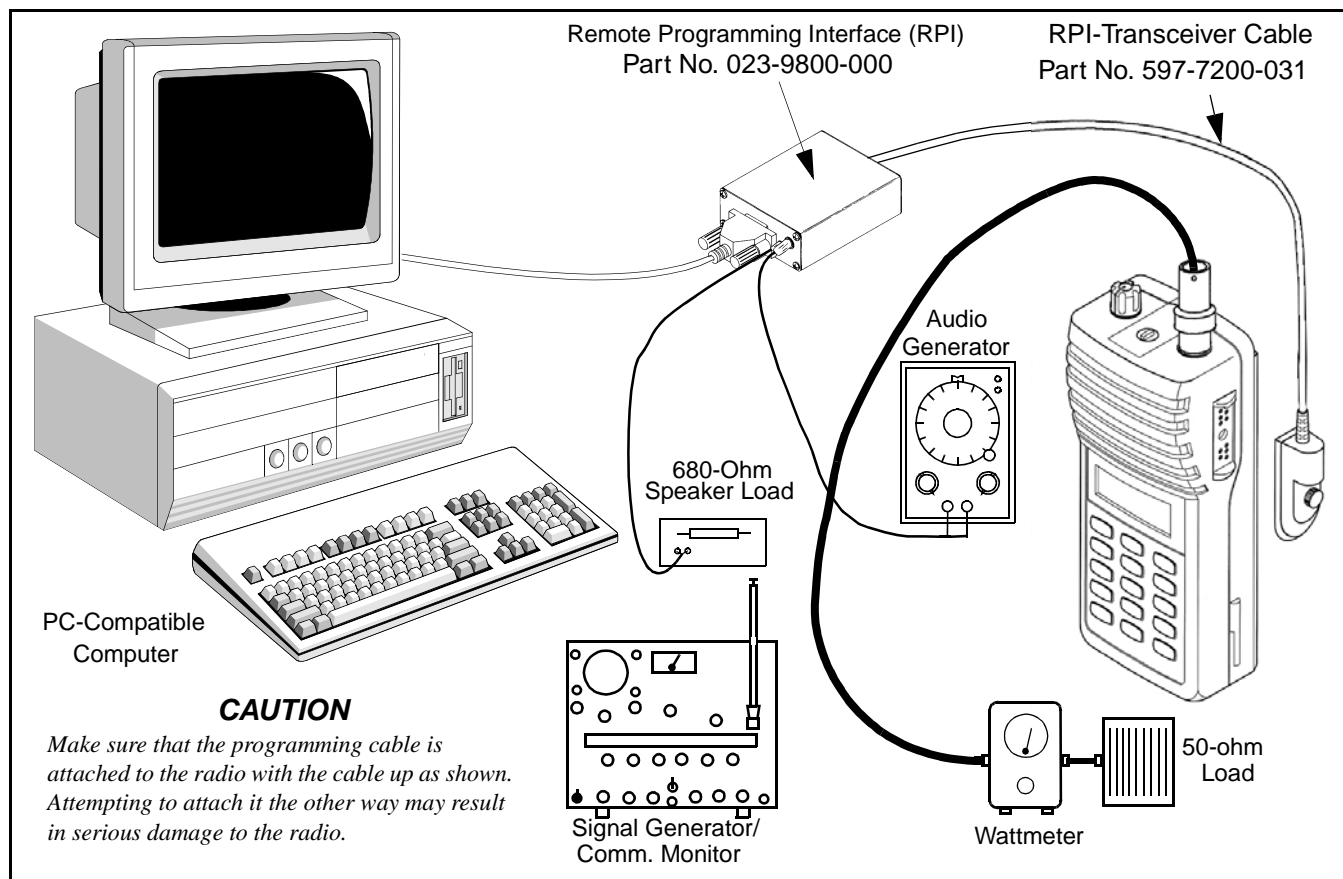

Figure 5-1 Alignment Setup Diagram
bility and microphone and speaker audio jacks that are required for alignment. Connect the test setup as shown in Figure 5-1. Refer to Section 3.1 for more information.
Connect the test setup shown in Figure 5-1. Additional information follows on equipment in this setup.
1. Connect a wattmeter and dummy load to the antenna jack as shown in Figure 5-1.